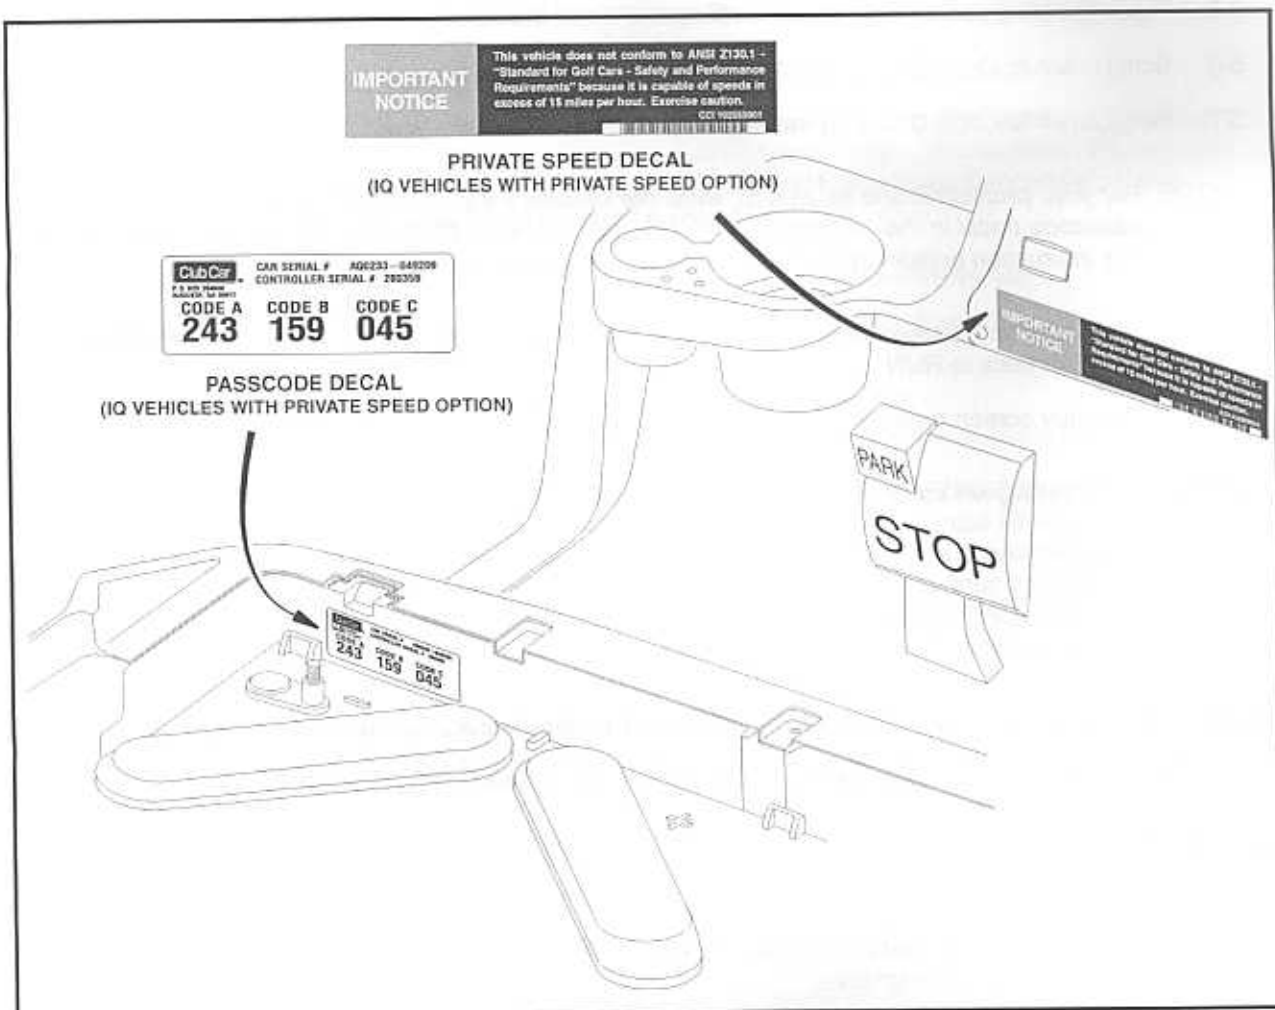

Figure 14 Apply Decals (Precedent Vehicle)
- 6.1.1. Locate the position shown for the Private Speed Decal (CCI P/N 102555901) (**Figure 14**).
- 6.1.3. Locate the position for the Passcode Decal (CCI P/N 102249801), underneath the seat cushion in the driver-side corner of the battery box as shown (**Figure 14**).